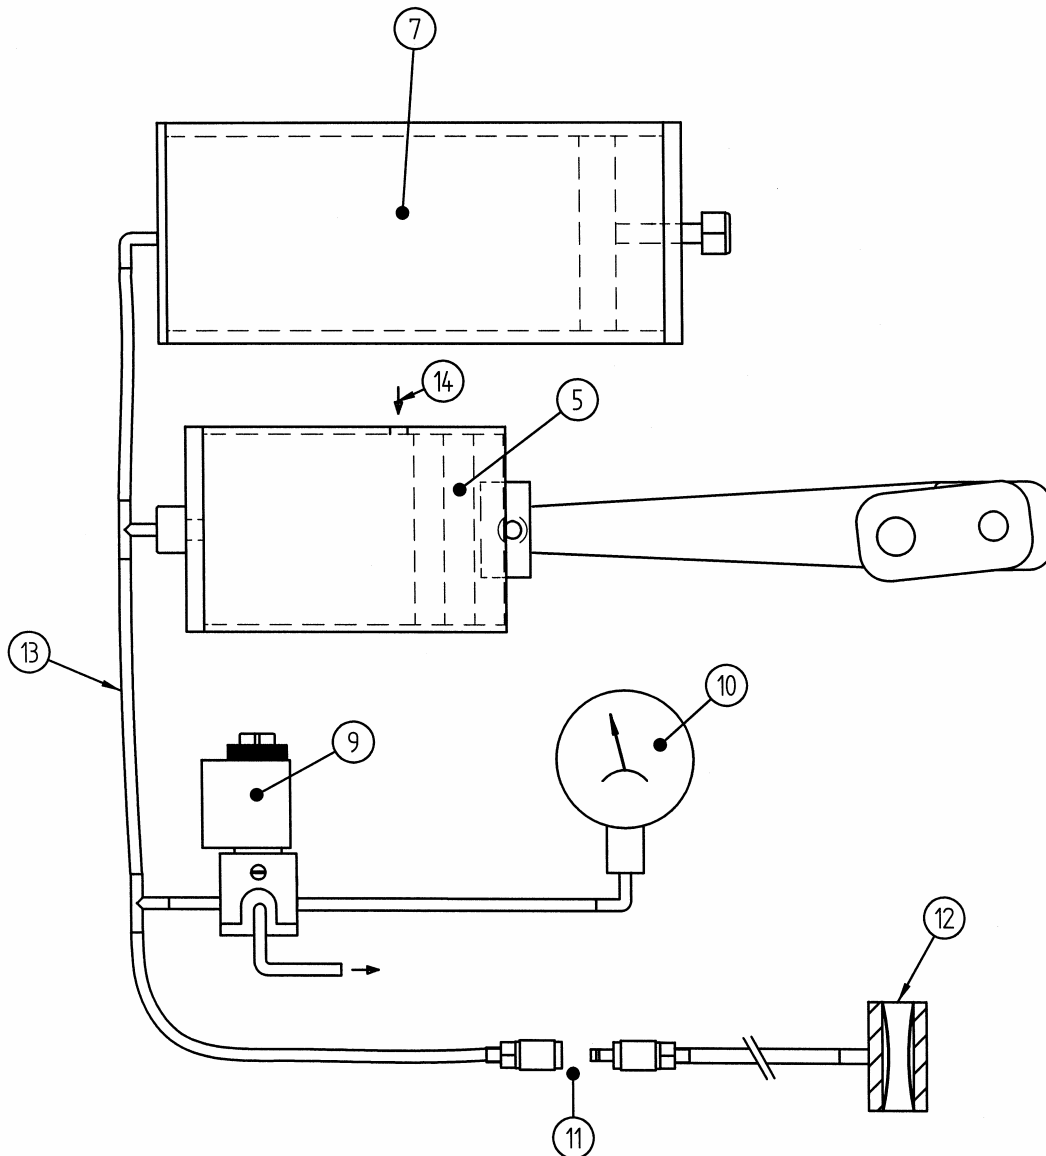

Figure 2 "Pneumatic Circuit"
The pressure is transmitted via an appropriate piping (13) to an expansion vessel (7), a blow-out valve (9), a pressure gauge (10) and the tail cuff (12) through the pneumatic connection (11), see Figure 2 "Pneumatic Circuit".